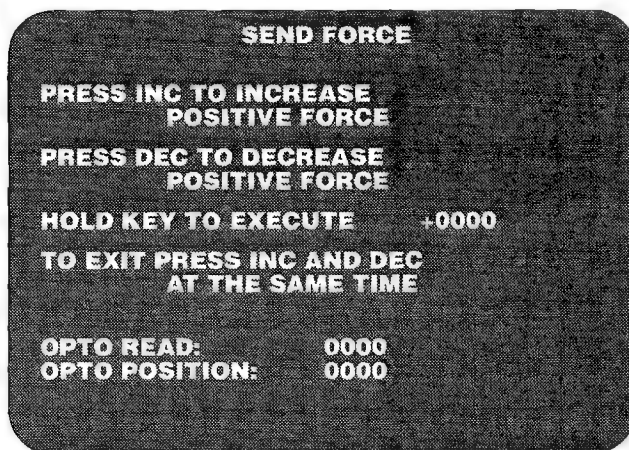

Figure 2-22 Send Force Screen
- *Send Force* sends a steady force to the motor amplifier PCB. See Figure 2-22.
- *Sine Wave* sends a sine wave force to the motor amplifier PCB. This screen is similar to Figure 2-22.
- *Square Wave* sends a square wave force to the motor amplifier PCB. This screen is similar to Figure 2-22.
- *Triangle Wave* sends a triangle wave force to the motor amplifier PCB. This screen is similar to Figure 2-22.